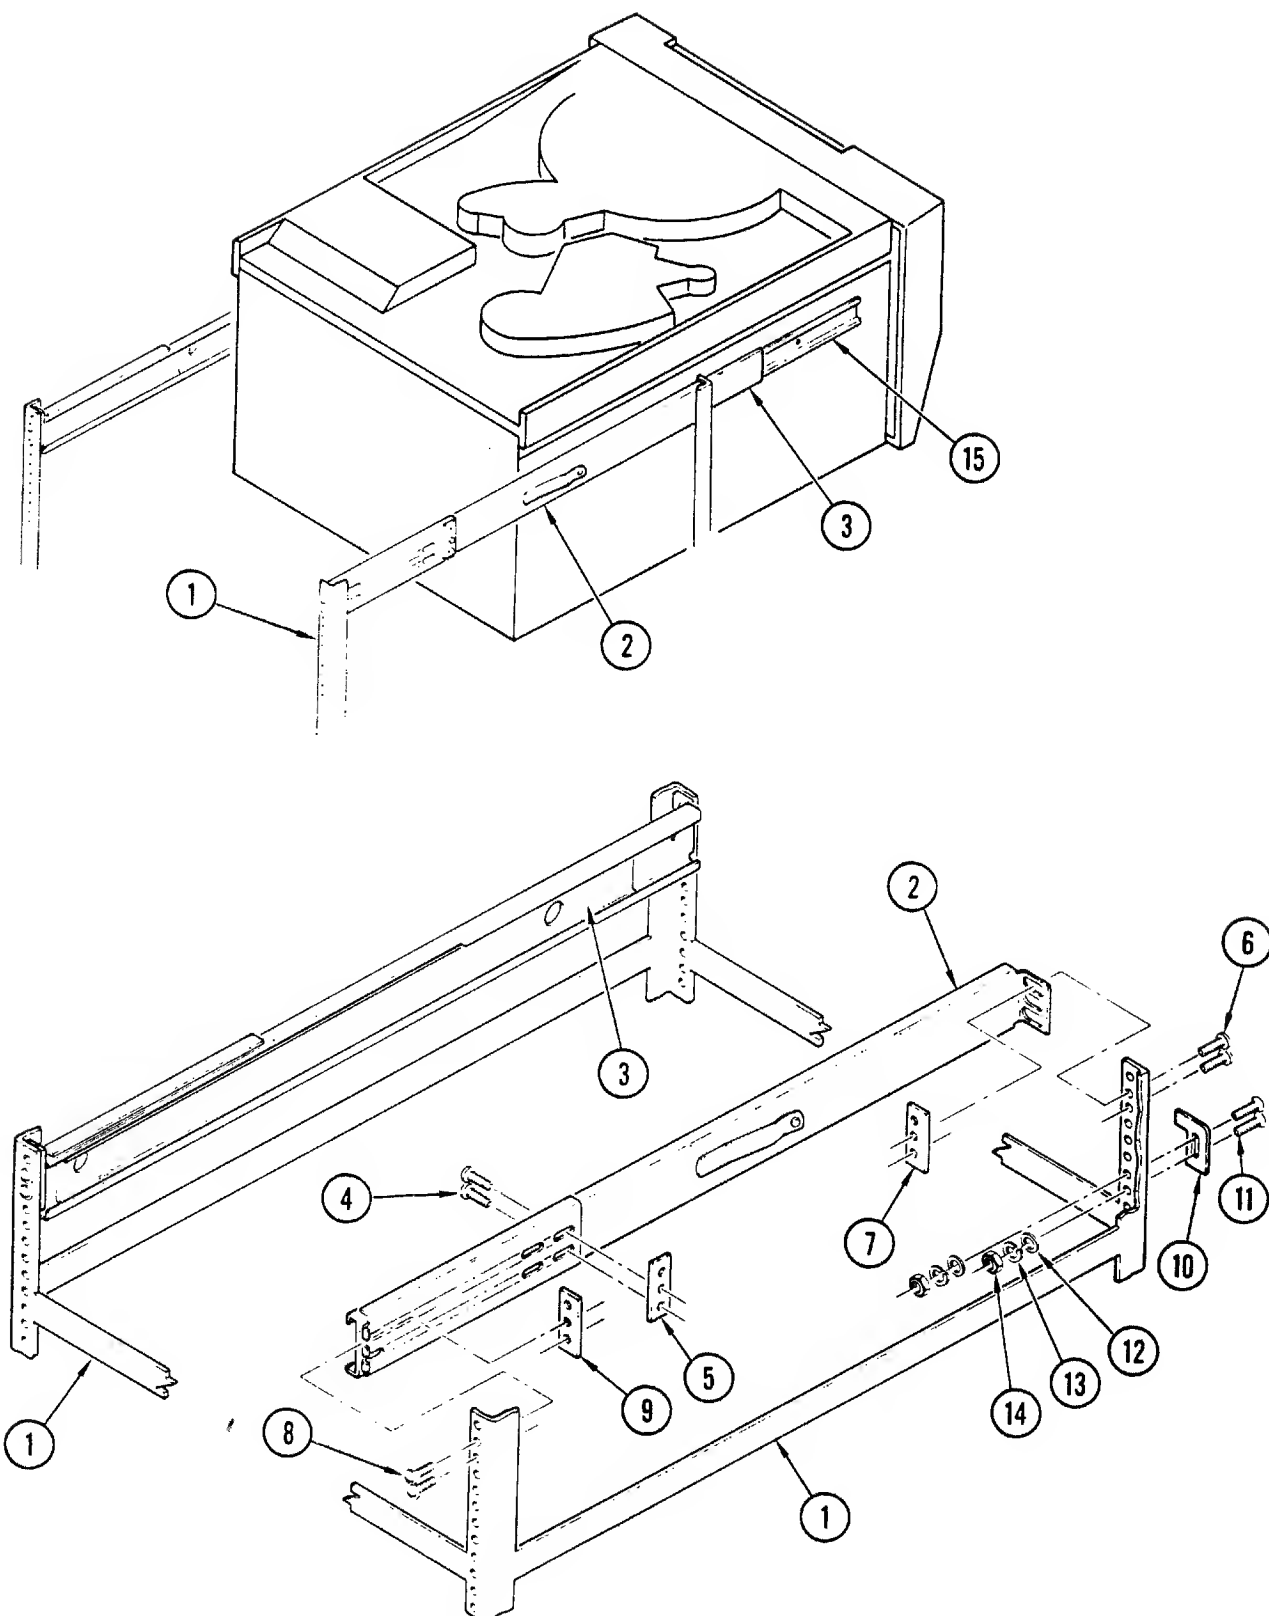

Figure 7. Rack Mounting
The GCRCTU is designed to be mounted in a standard, 19-inch-wide, EIA equipment rack using the slides and mounting hardware provided with each unit. The tape drive must be mounted with no front panel obstructions. Refer to Figure 7 to mount the drive as follows:
1. Locate the front and rear holes to be used on the equipment rack (1, Figure 7). If they are threaded, drill them out to 0.281 inches.
3. Starting with either side, remove the stationary section of the slide (2) from the drive by pulling the stationary section to the rear of the drive and pushing down on the locking lever. Then pull the slide rearward another 1/2 inch, push inward on the spring lock, and remove the stationary section.
4. Determine, for the depth of the rack, the appropriate holes to use in the mounting bracket and secure it loosely to the stationary section using two screws (4) and a nut plate (5).
5. Mount the front flange of the stationary section (2) to front rail by placing flange behind rack rail holes.
6. Install two screws (6), first through front of rail, then through the stationary section flange, and secure them loosely with a nut plate (7).
8. Install two screws (8), first through back of rack, then through mounting bracket flange, and secure them loosely with a nut plate (9).